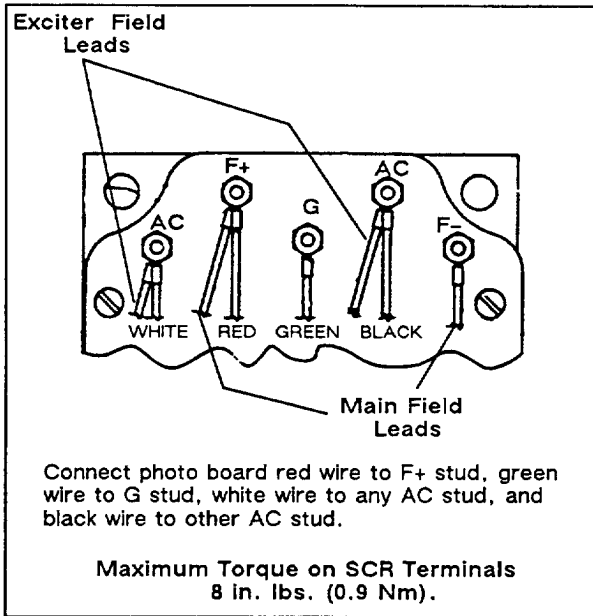

Figure 7. FR Activator Wiring
16. Connect one main field lead to SCR "F+" stud and secure with nut (X-71-2). Connect and secure other main field lead to "F-" stud, one exciter field lead to "AC" stud, and remaining exciter field lead to remaining AC stud. Connect photo transistor board white lead to AC stud and secure with stop nut (X-101-22). Repeat procedure with photo board red lead on "F+" stud, green lead on "G" stud, and black lead on remaining "AC" stud. Torque connections to 8 in. lbs. maximum (0.9 Nm). Reference Figure 7 for FR activator wiring schematic.